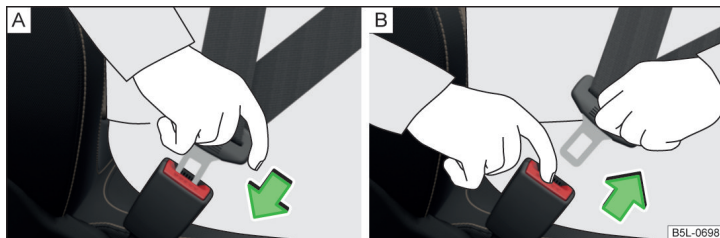

Fig. 6 Fastening/unfastening the seat belt
- Insert the lock tongue into the belt buckle for the seat » Fig. 6 - [A] until it audibly clicks into place.
- Press the red button in the belt buckle » Fig. 6 - [B]; the lock tongue pops out.